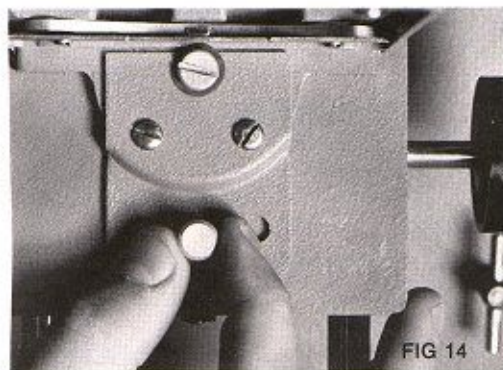

FIG 14
- Loosen thumbscrew (see fig. 14)